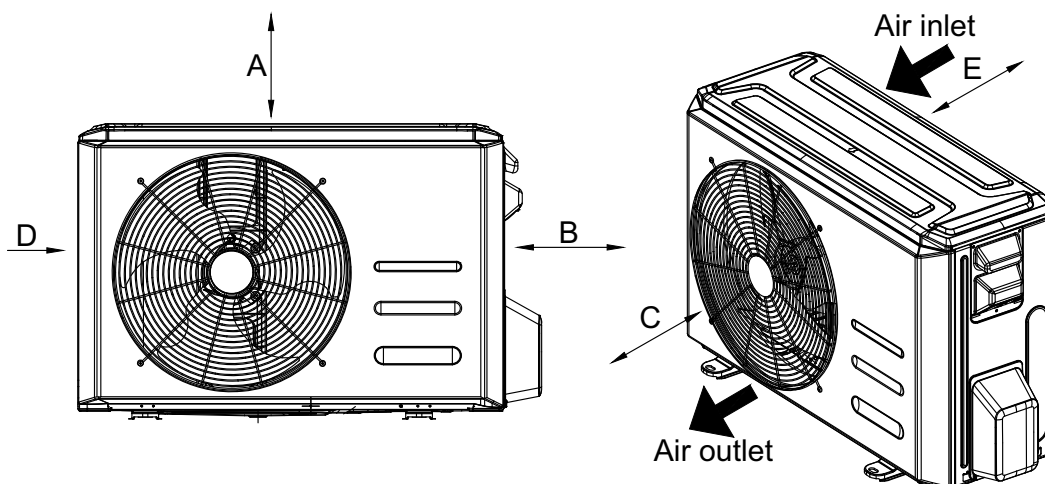

Fig. 5 — Outdoor Unit Clearances
- A location which provides appropriate clearances (see Fig. 5).
- Allow sufficient space for airflow and service of the unit. See Fig. 5 — on page 12 for the required minimum distances between the unit or walls.